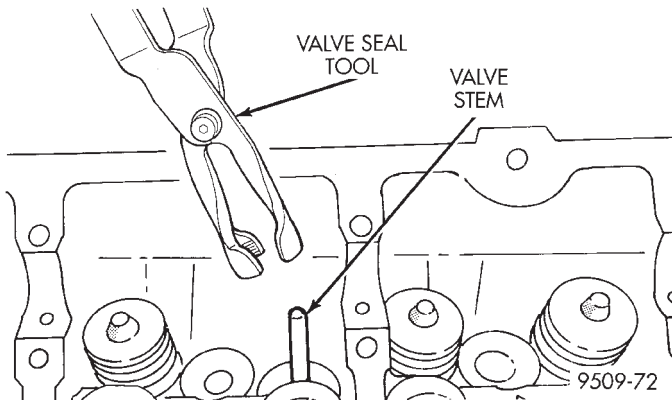

Fig. 59 Valve Stem Seal—Removal
(5) Remove cylinder head covers and spark plugs. Refer to this section for procedure.
(6) Remove rocker arm and shaft assembly. Refer to this section for procedure.
(7) Rotate the crankshaft clockwise, until the number 1 piston is at TDC (Top Dead Center) on the compression stroke.
(8) With air hose attached to spark plug adapter installed in number 1 spark plug hole, apply 620.5 to 689 kPa (90 to 100 psi) air pressure. This is to hold valves into place while servicing components.
(9) Using Tool MD 998772A with adapter 6527 or equivalent, compress valve spring and remove valve locks, retainer, and valve spring.
(10) Remove valve stem seals by using a valve stem seal tool (Fig. 59).